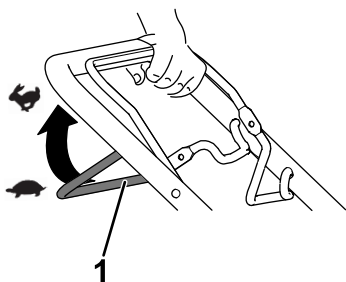

Figure 10
- To engage the self-propel drive, pull the self-propel-drive bar to the handle and hold it (Figure 10).